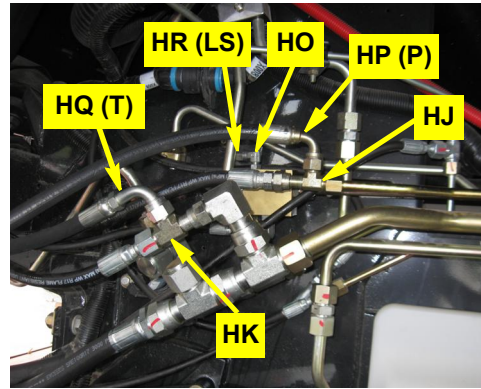
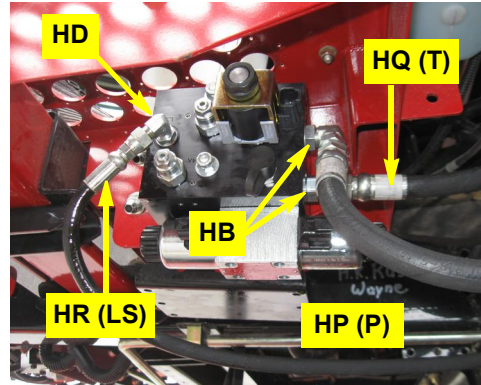

Figure 7a: Pressure, tank and load sense hoses installed at run-tees and load sense valve
Figure 7b: Pressure, tank and load sense hoses installed at the steering block
- a. Install pressure and tank hoses **HP** and **HQ** between their respective run-tees **HJ** and **HK** installed at steps 4 and 5 (Figure 7a) and fittings **HB** in the **P** and **T** ports of the hydraulic steering block (Figure 7b). Connect the elbow ends of the hoses to their run-tees.
**NOTE:** Figure 7b shows a straight fitting in the **T** port. You will use elbow fittings **HB** in both the **P** and **T** ports.
- b. Install load sense hose **HR** between fitting **HO** in the load sense valve (Figure 7a) and fitting **HD** in the **LS** port of the hydraulic steering block (Figure 7b).